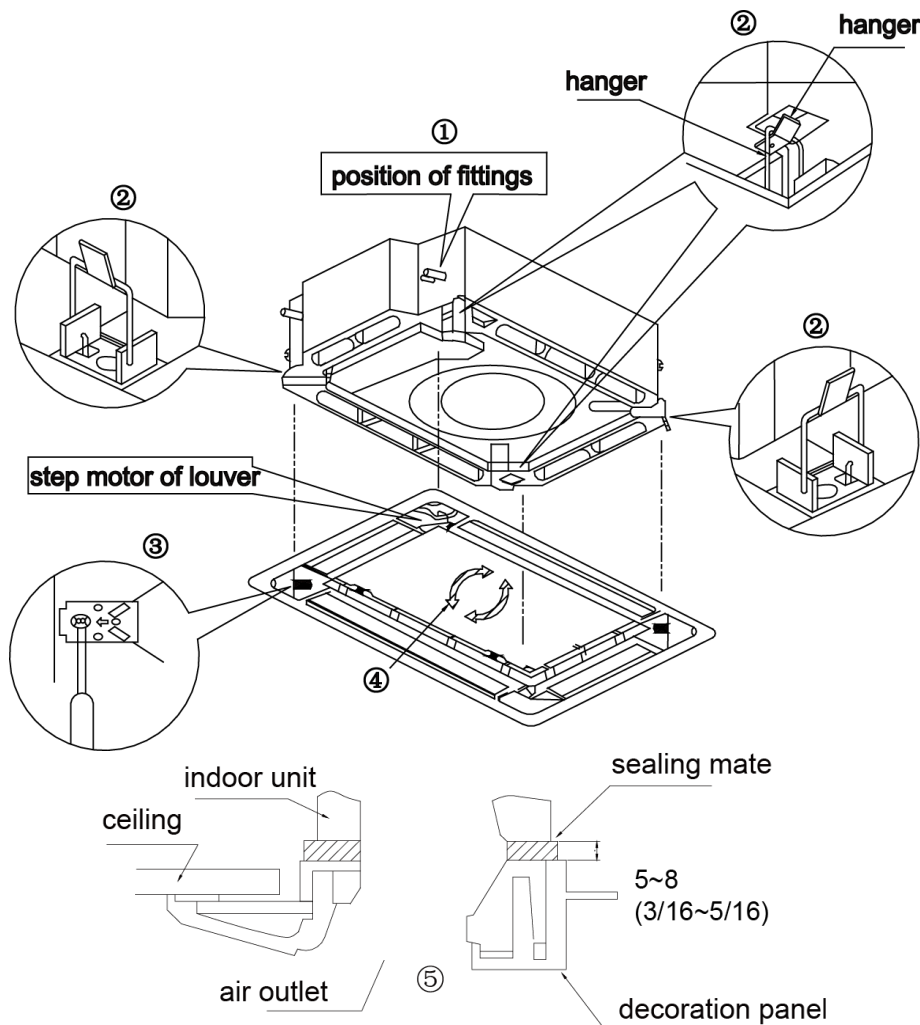

Fig.4.4.4
- (1) Detach the panel's Corner Cap, there is a mark "piping side" on one of the 4 corners, adjust the panel direction so as to keep the mark and fittings on the same corner.
- (2) Temporality hang the panel to body (there is four hangers on each corner of the panel, hang the hangers to corresponding hooks on the body), as shown in fig. 4.4.4.
- (3) Detach the air inlet grille from panel, make a wiring connection of signal receiver. Notices that the connection wire not stuck in the middle of body and panel, or may cause air leakage and lead to condensation water drop.
- (4) Tighten 4 screws at each corner of panel respectively, fix the panel on the body firmly.
- (5) After tightening screws, reinstall the air inlet grille.